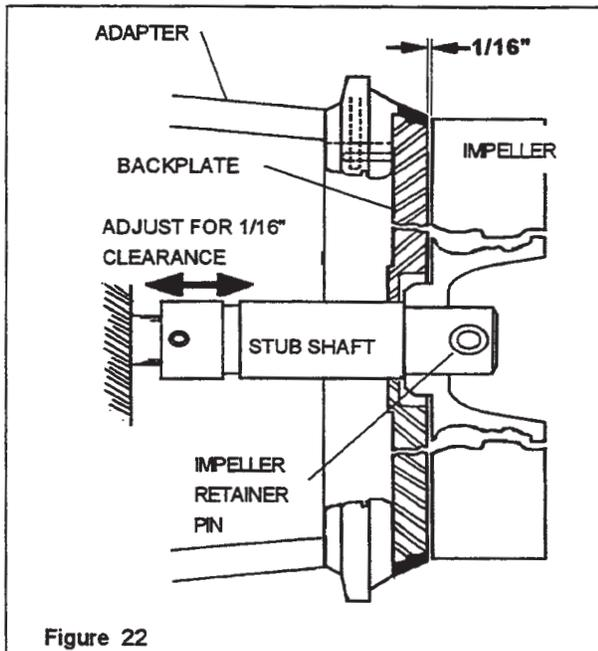

Figure 22
5. Rotate the stub shaft until the impeller retaining hole is in a horizontal position. Insert the impeller retainer pin, and center it in the stub-shaft. Slide the impeller on the shaft. Hold the impeller tight against the shoulder in the shaft and rotate the shaft one-quarter turn until the impeller pin engages with the impeller. (Figure 22)
2. Move the stub-shaft away from the motor shaft to allow 1/16 -inch maximum clearance between rear face of the impeller and the front (inside) face of the backplate. (See Figure 22)